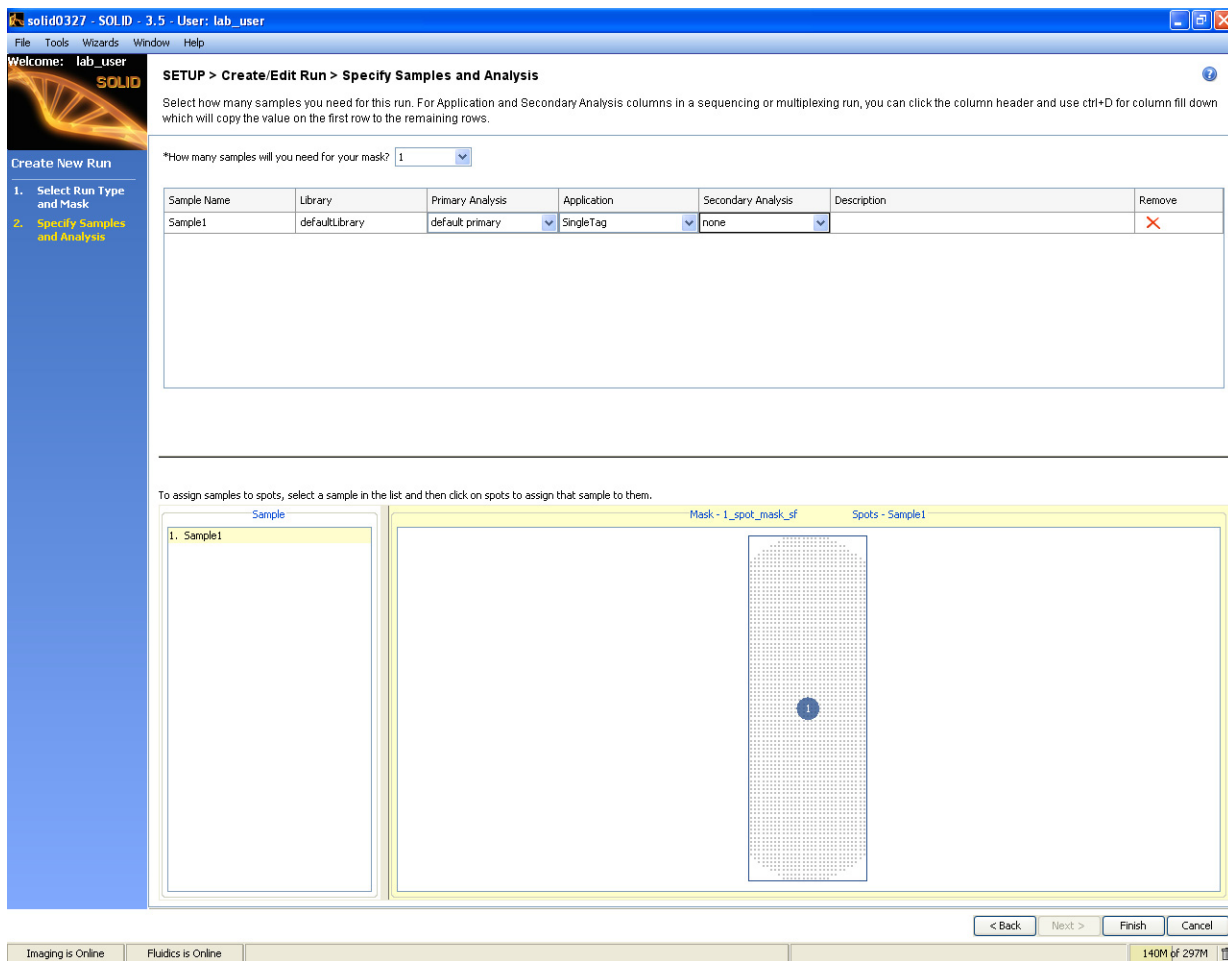

Figure 48 Complete the information in the Specify Samples and Analysis pane.
- Complete the information in the Specify Samples and Analysis pane (see Figure 48 on page 55):